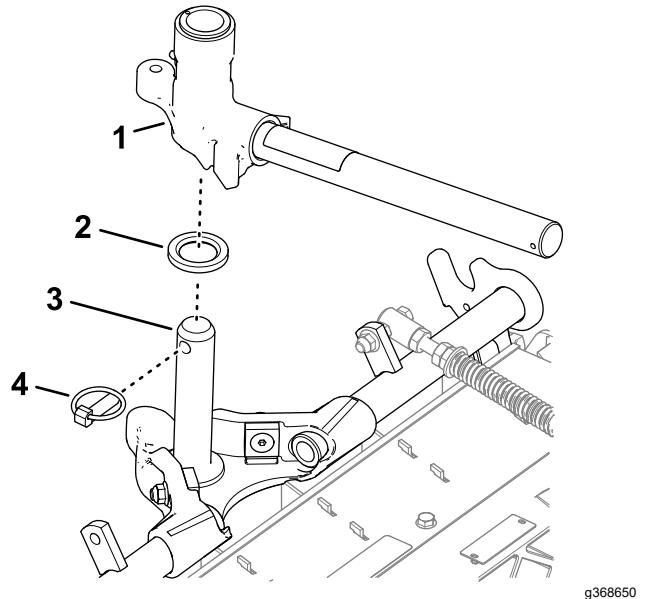

Figure 18
2. Insert the lift-arm yoke onto the carrier frame shaft (Figure 18).